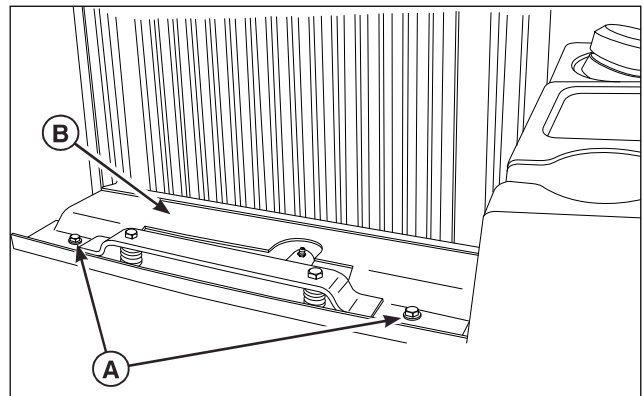

Figure 54. Remove the Pump Drive Belt Guard
2. Remove the hardware (A, Figure 54) that secures the pump guard plate (B) to the frame. Remove the pump guard plate from the machine.